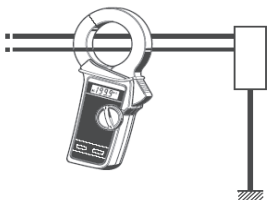

Fig.3 Normal AC Current Measurements
- Frequency selector switch ⑨ is designed to select the “50/60Hz” and “WIDE” frequency ranges. For further details, refer to section 5-4 for operation of the frequency selector switch.
- (1) Set the function/range switch to the desired position. Do not exceed the maximum allowable input current for the selected range.
- (2) For normal measurement, press the jaw trigger to open the transformer jaws and clamp onto one conductor only. See Fig.3. Earth leakage current or small current that flow through a grounded wire can also be measured by this method. (Fig. 4)